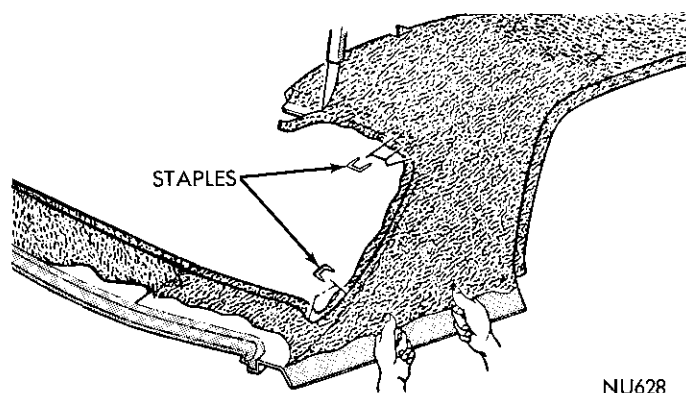
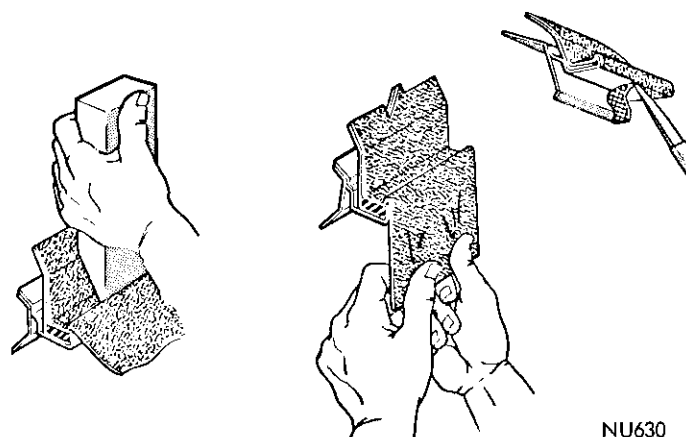

Fig. 6—Cover Application at Windows (4 Door)
Fig. 8—Trimming Cover at Drain Troughs
(14) Trim excess material at inside corner of "C" pillar face and blend upper trimmed edge to join trimmed edge of cover at drain trough (Fig. 8).
(15) Locate and punch holes in cover material, at belt moulding holes in roof extension, on a line 3/16 inch below the holes.
(16) Grasp edge of cover and while pulling material outward and down, use upper edge of drain trough flange as a breakover for draping material on to the flange face (Fig. 6). **Use care to avoid pulling cover material loose at base of drain trough.**
(17) Press material against drain trough flange face.
(18) Trim excess material, hanging below flange, about 1/8 inch above lower edge of flange (Fig. 8).
(19) Apply a 1/8 inch bead of sealer over trimmed edge of cover at roof extension belt area and smooth out to form a seal.
(20) Apply a bead of sealer to edge of cover and blend upward to form a seal over staples and edge of cover.
(21) Locate and punch holes in cover at roof extension belt line.
(22) Trim cover on a line 1/4 inch below belt line moulding holes (Fig. 8).